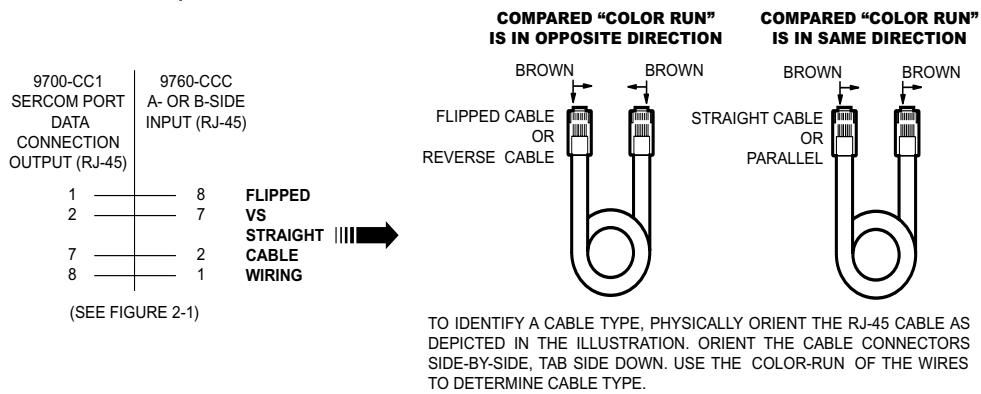
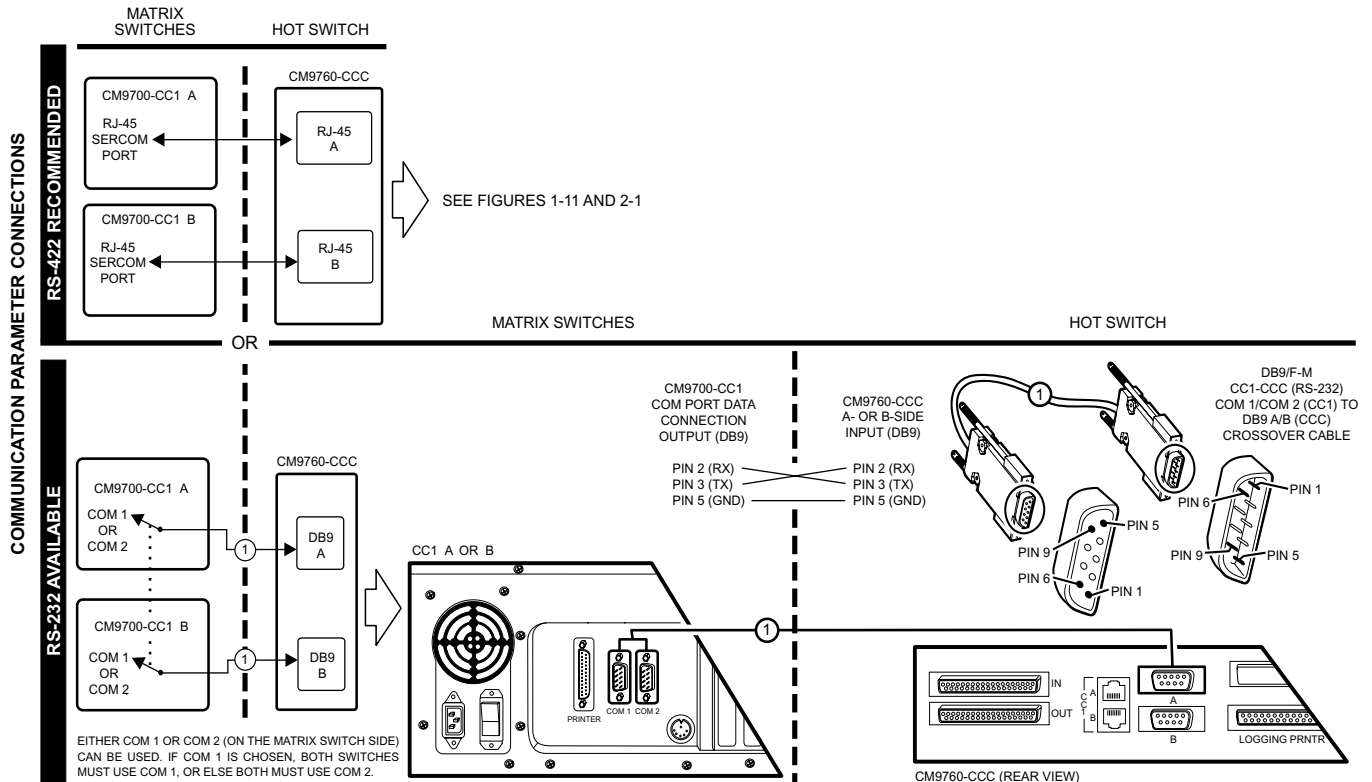

Figure 1-4. Data Cable Identification
Figure 1-5. Data Cable Wiring
The CCC subunit is the heart of the hot switch. Data connections between the interfaced CC1s (matrix switches) and the HS are located here. Two connector types that correspond to two communication types for the data line to the CCC are provided: RJ-45 or DB9. You can use either, but the connector type chosen determines the communication protocol you must use and vice versa. Both are illustrated in Figure 1-5. In the top portion of Figure 1-5, the RJ-45 data line connection (one from each switch) is shown. If RS-422 communication is chosen, the data cable from a port on matrix switch CC1 'A' (an RJ-45 Sercom port, usually port 5) is run to the RJ-45 CC1 A port on the CCC. A similar cable is run from CC1 'B' to the RJ-45 CC1 B port on the same CCC. These cables are reversed or "flipped" and utilize pins 1, 2, 7, and 8 as depicted in Figure 1-4. Alternately, in the bottom portion of Figure 1-11, the RS-232 data line connection is shown. A DB9 cable is run from either the COM 1 or COM 2 port (on the respective CC1 'A' or CC1 'B' switch) to the appropriate (CC1 A or B) DB9 port on the CCC. The cables for the DB9 data connection runs are not supplied. Pelco recommends that RS-422 communication be used whenever possible. The cables for the RS-422 data connections are provided.
- THE ALTERNATE HOOKUP (INDICATED BY THE DOTTED LINE) IS DETAILED IN FIGURE 1-5.